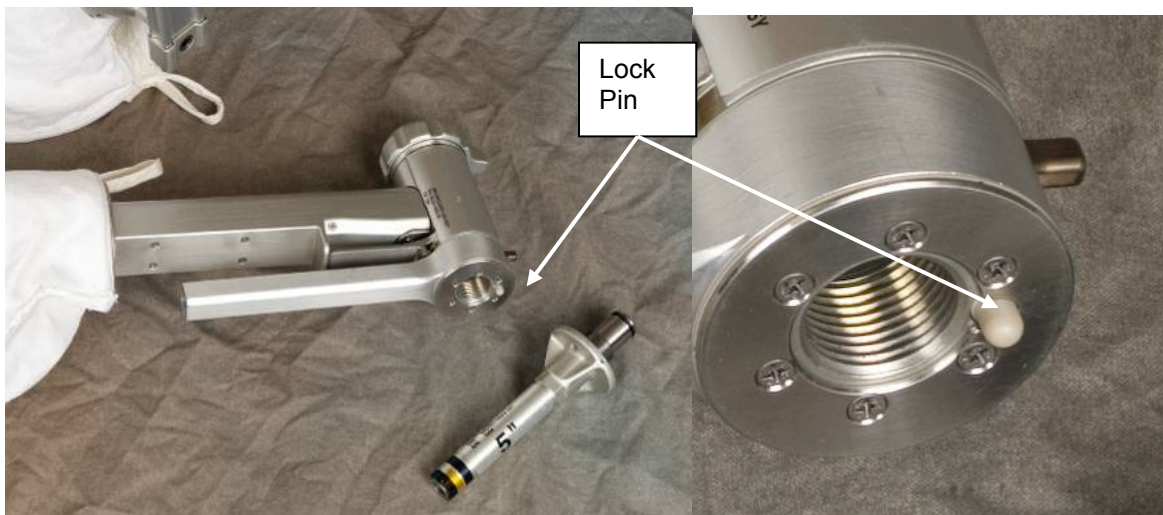

Figure 4.- Nozzle Installation
26. After ~5 turns lock pin will engage; will need to depress lock pin at least once and continue to rotate the nozzle cw to achieve full turn count (figure 4).